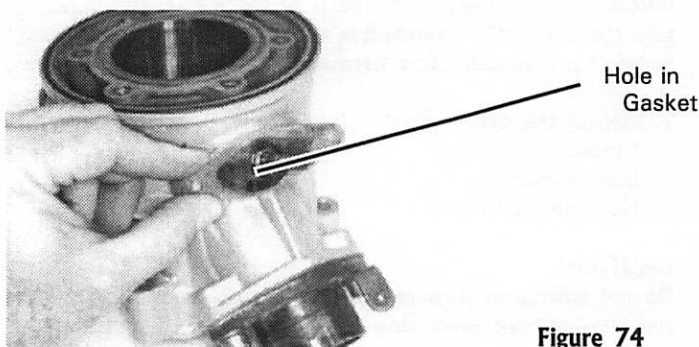

Figure 74
3. Install a new valve rod housing gasket. Align the hole in the gasket (Figure 74) with the hole in the cylinder block.